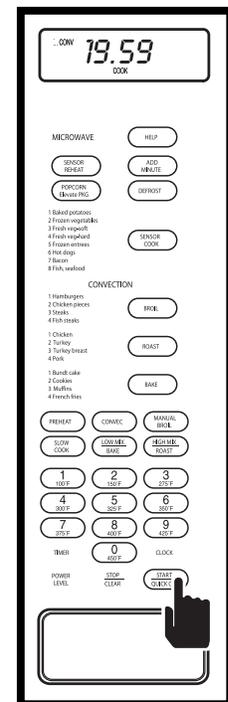

Figure 3-74
4. Press the QUICK ON/START key (See Figure 3-74).